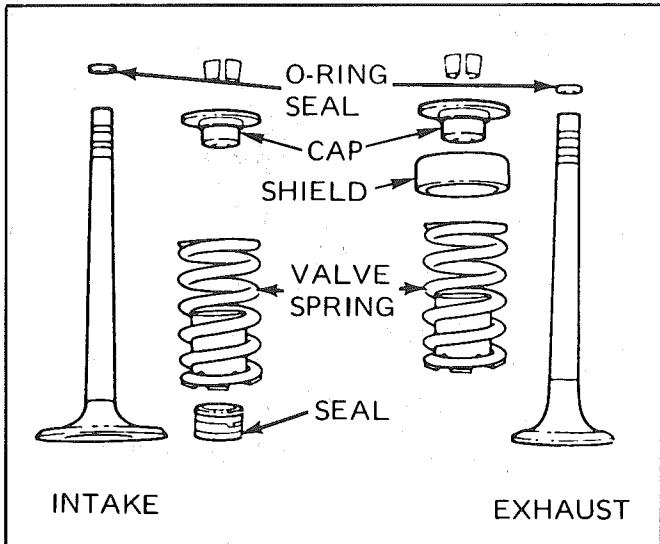

Figure 6A2-12 Valve Stem Seal
4. Using Tool J-5892 to compress the valve spring, remove the valve locks, valve cap, oil shedder (exhaust only) and valve spring and damper (Figure 6A2-11).